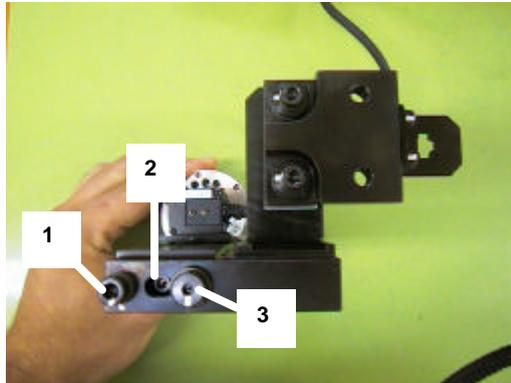

Figure 22
5. To adjust the camera angle, loosen the fixing bolt (item 1 in figure 22) holding the camera in position. Rotate the 3mm eccentric bolt (item 2 in figure 22) while re-measuring until the value for Delta Q comes to zero. Tolerance: 0 ± 50 (1/1000 deg.). There is no need to touch the pivot (Item 3 in figure 22).